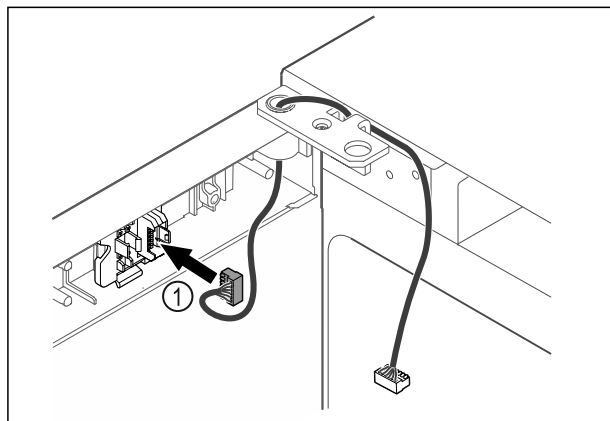

Fig. 41
- Put the plug Fig. 41 (1) in the plug holder.